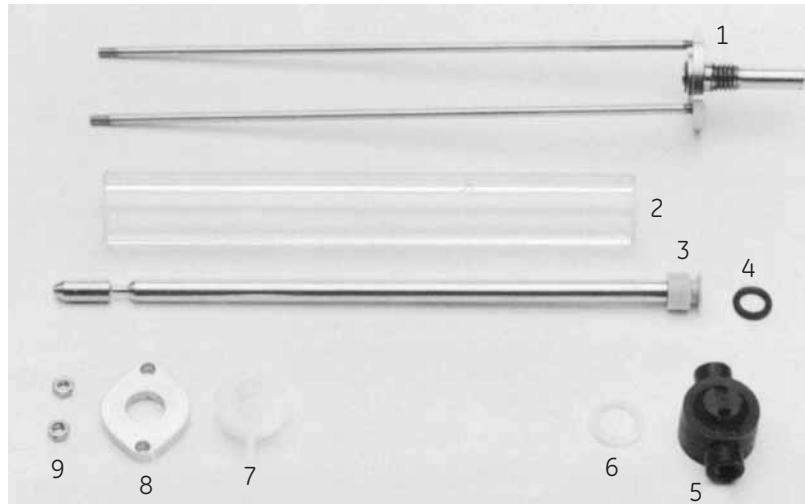

Fig 15. Pump head components.
12. The wiper (see Fig 15 position 7), is replaced by pressing it out from the rod. Press a new wiper onto the rod. The hole on the wiper should point towards the pump head.
14. Replace the white gasket ring (see Fig 15 position 6) between the end piece and the glass cylinder. Use a spatula to remove the worn out gasket ring.